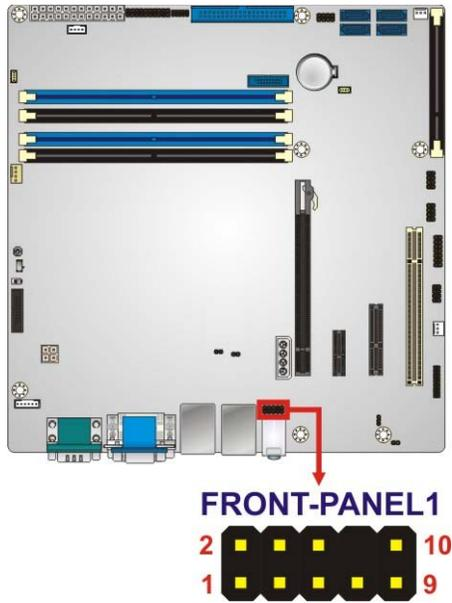

Figure 3-11: Front Panel Audio Connector Location
- CN Location:** See **Figure 3-11**